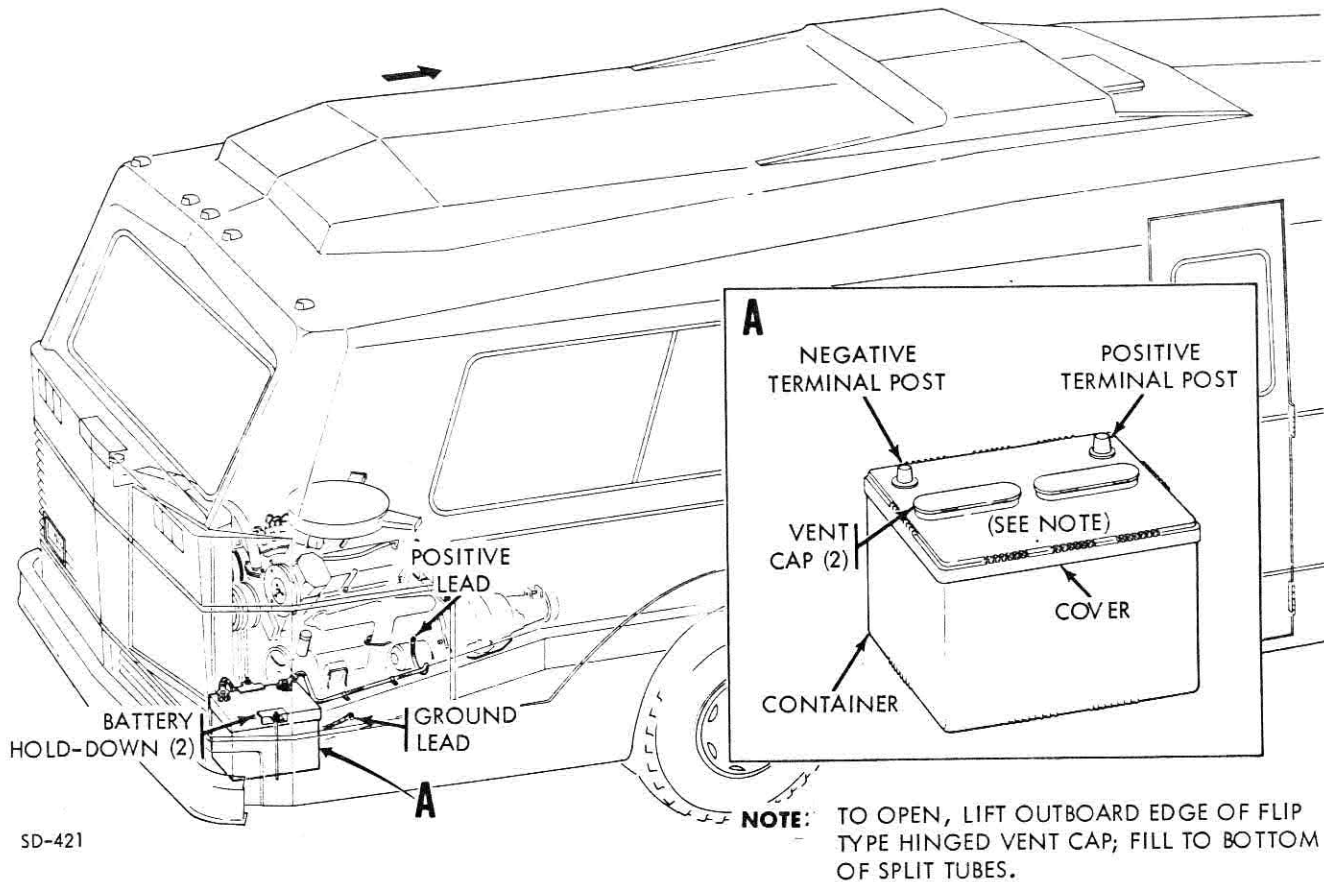

Figure 4-4. 12 Volt Battery
(3) 12 Volt Battery (fig. 4-4). The 105 amp, 12 VDC 90-plate automotive battery is located in the aft right hand side of the engine compartment. The battery is a lead-acid, electrochemical device assembled in a one-piece molded container. It is divided into six cells. Each fully charged cell, on open circuit, has a voltage of slightly over 2 volts.